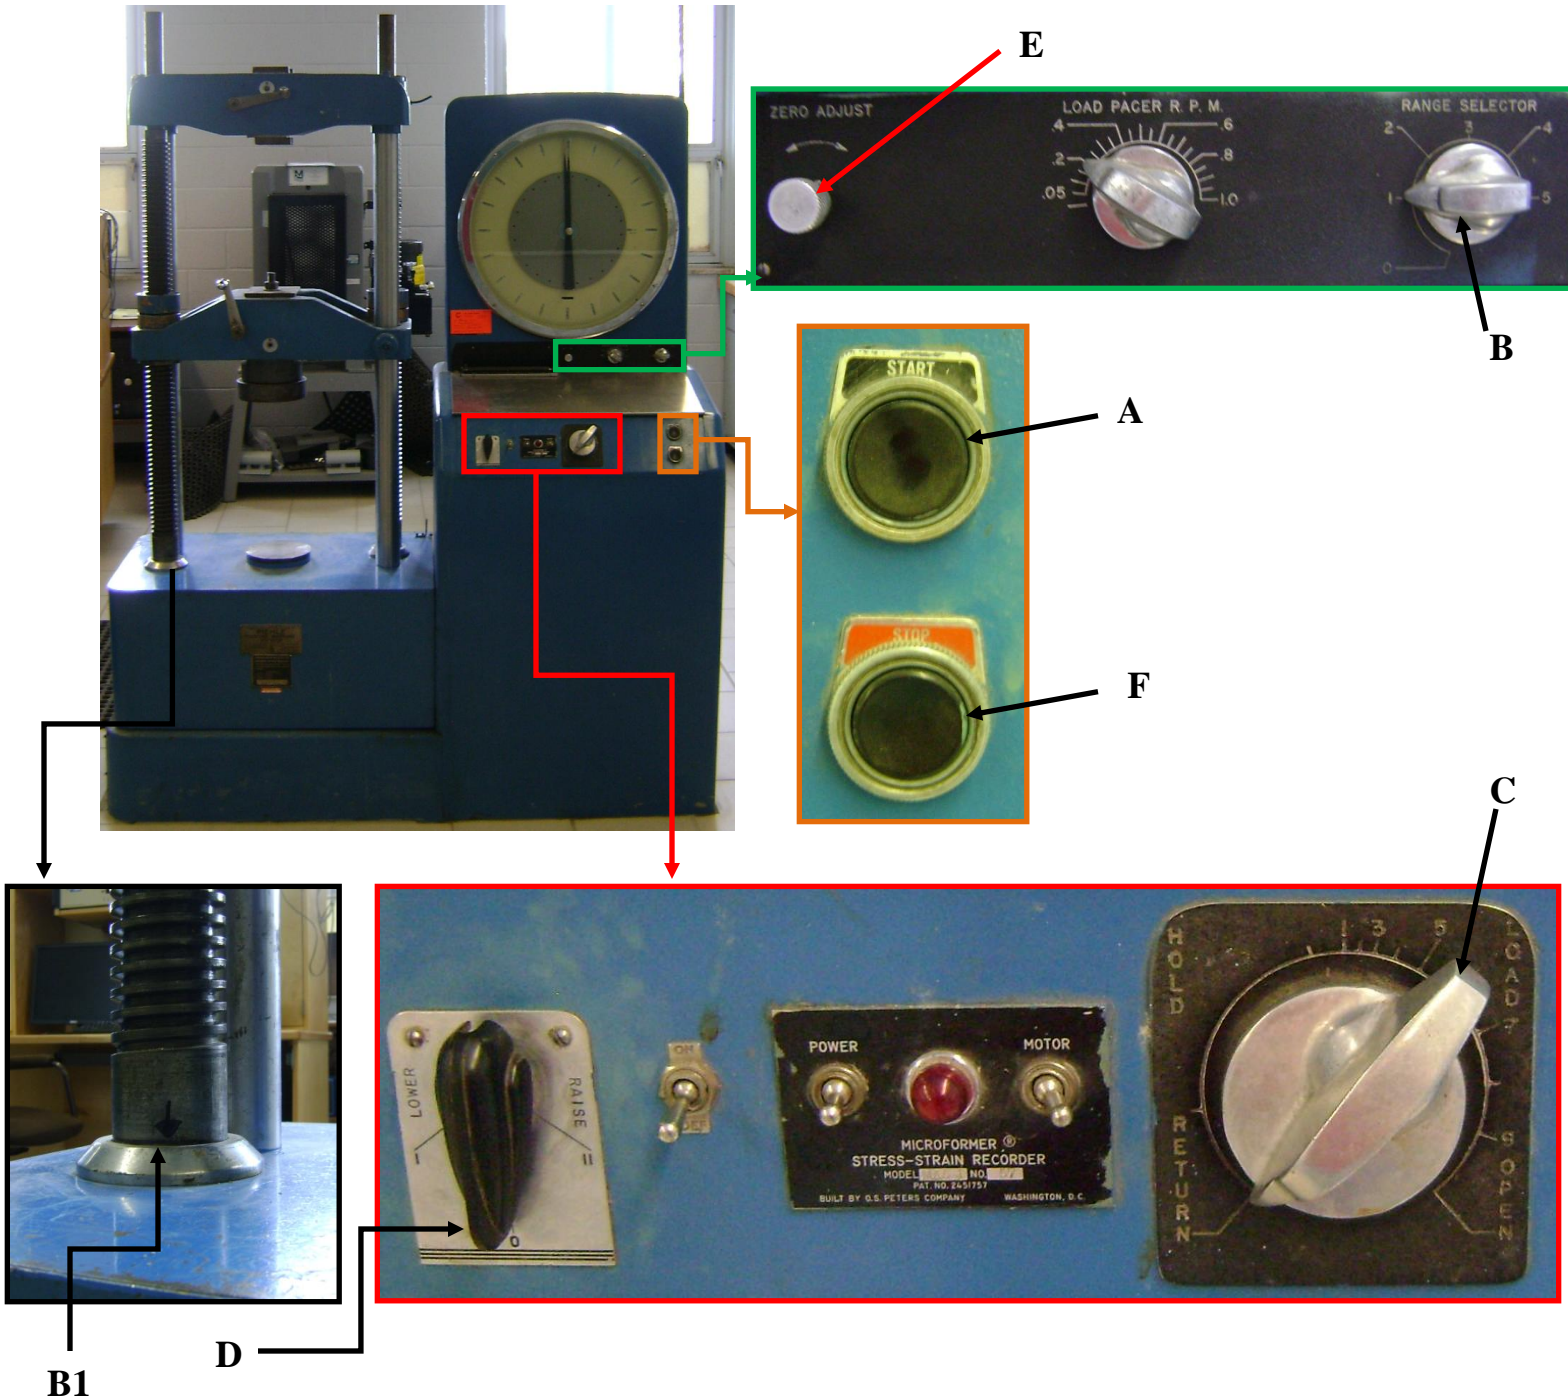

Figure 1. Riehle 60,000 lb Compression/Tension Machine
- Press “START” button **Figure 1 (A)**
➤ Turn dial **Figure 1 (B)**
Raise base table to the line indicated on the screw jack; **Figure 1 (B1)**
- Turn load dial past “HOLD” position (Clockwise) **Figure 1 (C)**
- Turn load dial to “HOLD” position **Figure 1 (C)**
- Turn dial to “LOWER” or “RAISE” as required **Figure 1 (D)**
- Turn dial (clockwise or counter-clockwise) as required **Figure 1 (E)**
- Turn load dial (clockwise) till loading rate required is achieved (typically 1-3) **Figure 1 (C)**
- Press “STOP” button **Figure 1 (F)**
- Turn load dial to “RETURN” position **Figure 1 (C)**
- Turn load dial (counter-clockwise) to “RETURN” position **Figure 1 (C)**